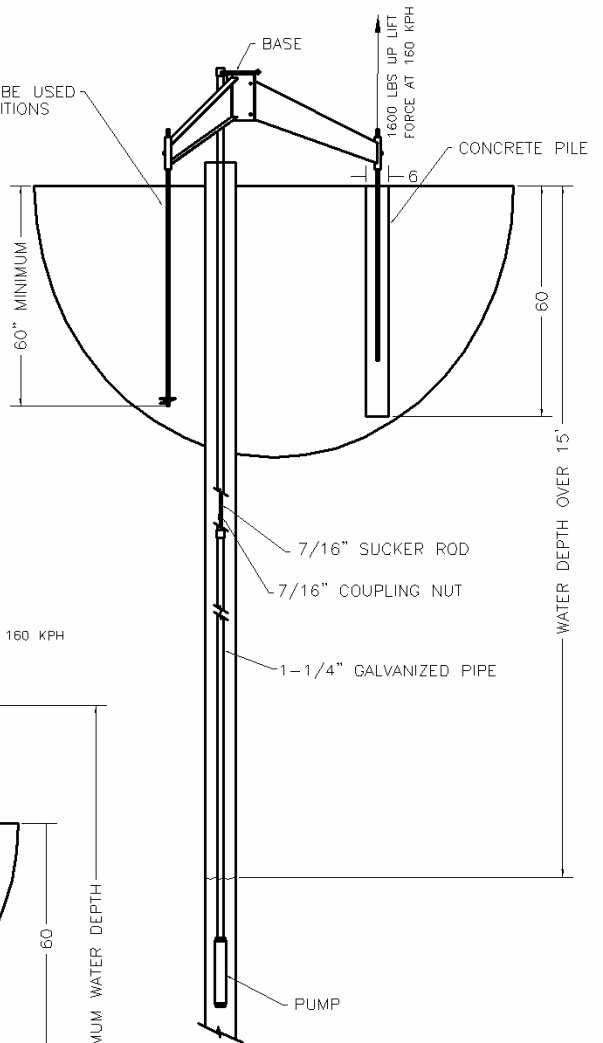
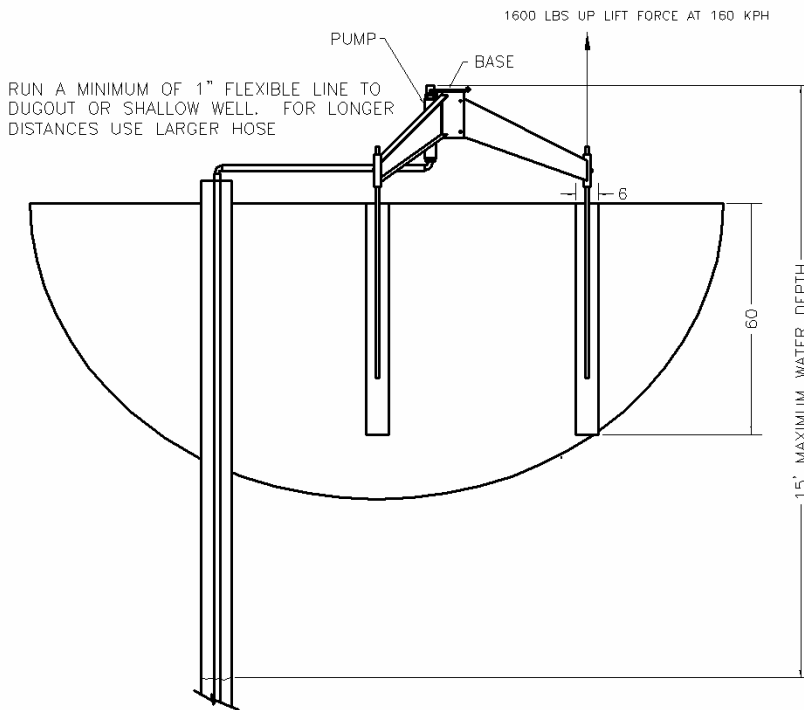

FIGURE 2
FIGURE 3
- 1.) If static water level is more than 15 feet below the level it has to be pumped, the pump will have to be positioned within 15' of vertical distance above water level. Refer to Figure 2, on Page 7, for instruction. If the pump can be less than 15' above water level or if the installation is for aeration only, refer to Figure 3, on page 7.